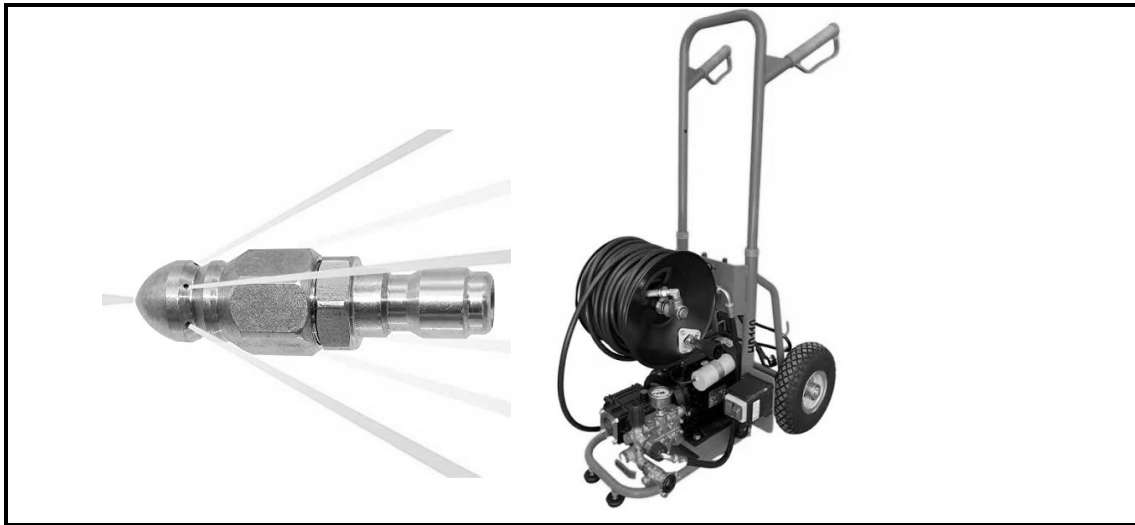

FIGURE 4.11
4.11 Answer the following questions with regard to the tool in FIGURE 4.11.